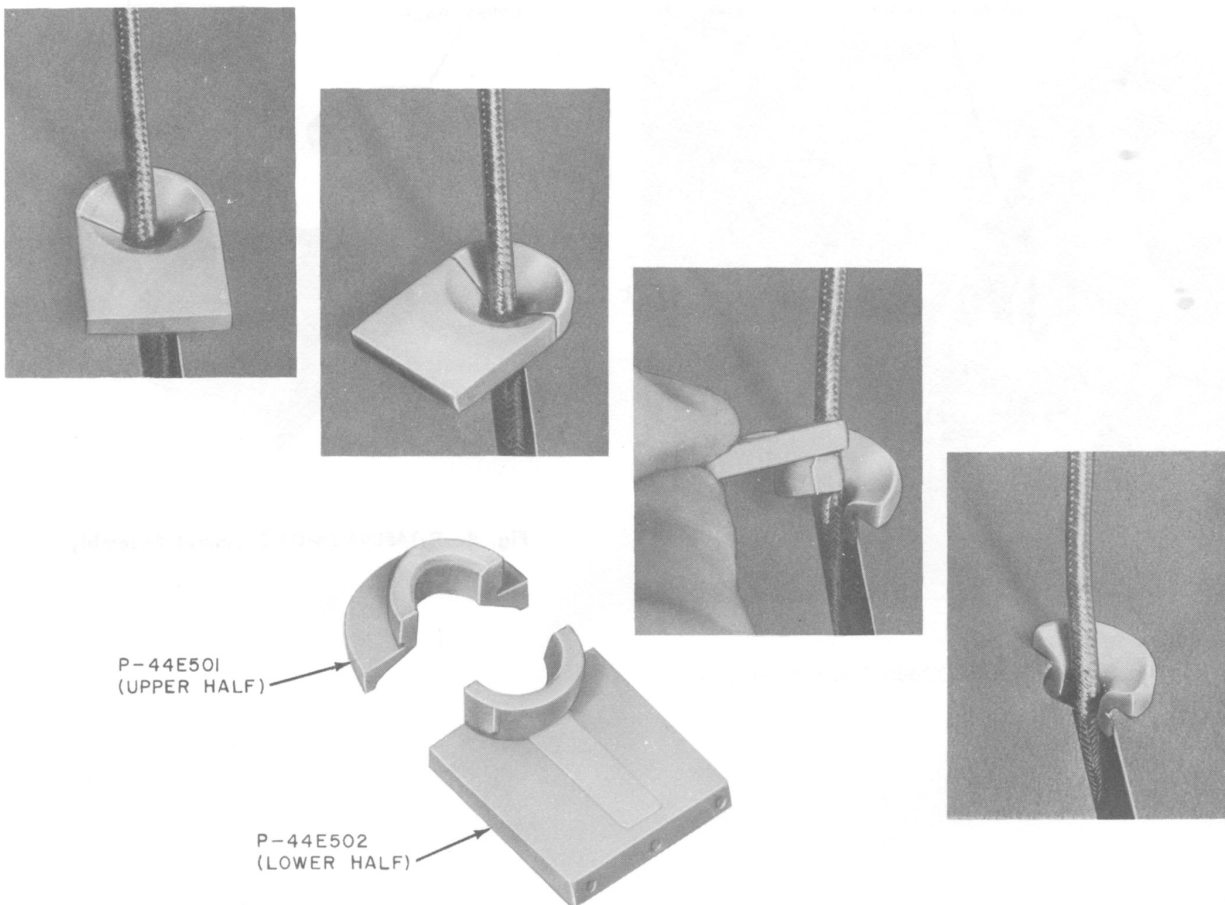

Fig. 5—Removal of Handset Cord Grommet
- (1) Grasp mat retainer frame at top, lift upward and out to release frame from panel of set.
- (2) Remove handset from hook of set.
- (3) Pull out handset cord to allow working slack.
- (4) Remove mat from face of panel.
- (5) Remove grommet from mat as shown in Fig. 5.
- (6) Install grommet in new mat by reversing procedure used in removal.
- (7) Position mat on panel and secure using the mat retainer frame.